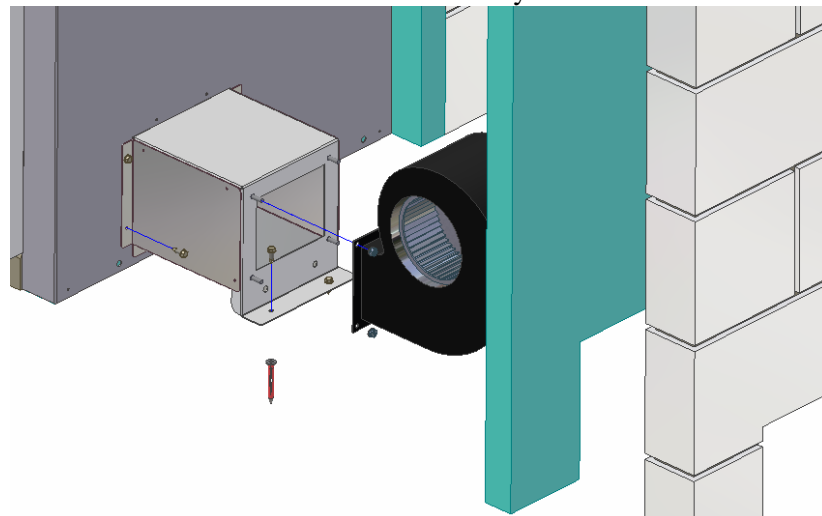
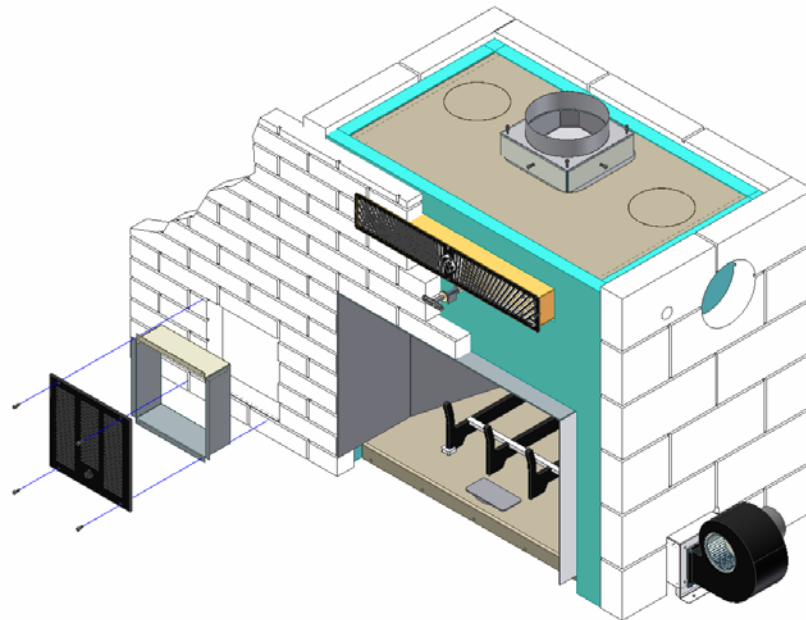
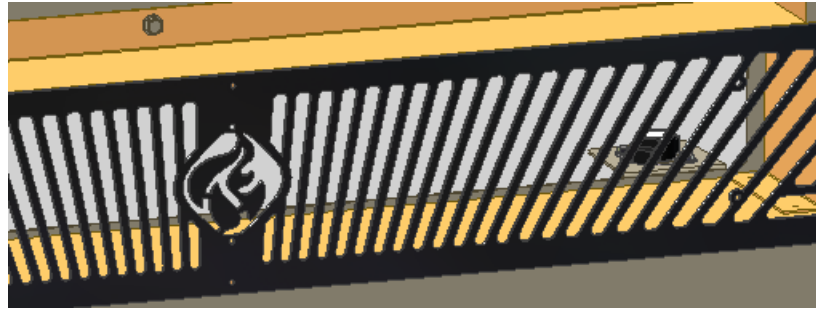

FIGURE 8A: BLOWER INSTALLATION
FIGURE 8B: AIR INTAKE GRILLE INSTALLATION
FIGURE 12: THERMAL SNAP DISK LOCATION
Blowers add to the efficiency of the Smart Fireplace Furnace by moving room air across the heat exchanger fins built into the Smart Fireplace Furnace. This air is heated and then returned to the room or home duct system to provide more uniform heating throughout the house. Country Flame provides two grille frames that are to be framed in by the mason when finishing the front face of the Smart Fireplace Furnace. FIGURE 8A shows how a blower is mounted to the Smart Fireplace. Figure 8B shows the proper installation of the air intake grills with variable speed controls attached. Follow the steps listed below to install each blower. Refer to FIGURE 12 for the electrical schematic of the blower system.
1. Attach one blower mount to the Smart Fireplace on the right side as shown in FIGURE 8A. Repeat the process for installing the blower mount and fan on the left side. **NOTE:** Ensure an electrician wires and properly grounds the Smart Fireplace blowers. Once the brick mason has completed the face, no access to the blower wiring is possible. Bolt blower mounts to the concrete footing in order to minimize movement or vibration of the blower assembly as shown in FIGURE 8A.
3. Once Step 1 and 2 are complete, the air intake grilles and grille frames can be installed when the mason bricks the front of the fireplace. Refer to FIGURE 8B to see the recommended procedure for proper installation of the grille frames and the air intake grille with variable speed control rheostat mounting. Ensure that the electrician properly wires the variable speed control provided on the air grilles to the blowers.
FIGURE 12 shows the location of the thermal snap disk on the right side behind the front grille. Service to this component should only be accomplished by a qualified technician. This snap disk comes pre-wired from the factory. Once connected to the main power circuit, this snap disk will automatically turn the blower system on and off as the Smart Fireplace Furnace reaches either the appropriate hot or cold temperature.